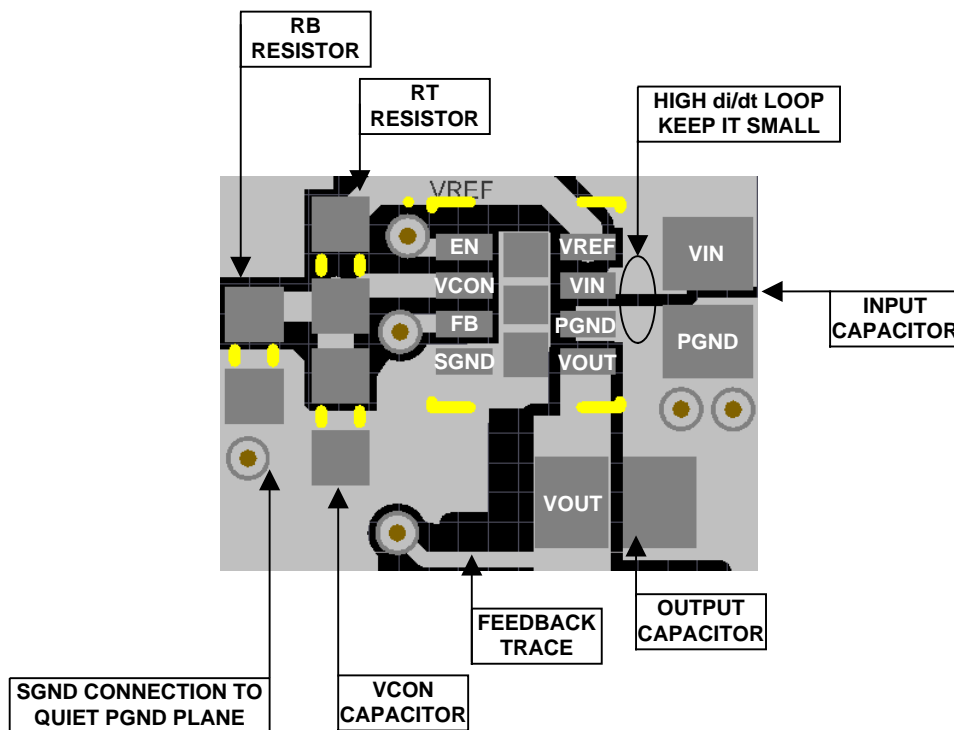

Figure 40. Example Top Layer Board Layout
The LMZ10501 integrates the inductor and simplifies the DC-DC converter board layout. Refer to the example layout in Figure 40. There are a few basic requirements to achieve a good LMZ10501 layout.
2. Place the V_{CON} filter capacitor C_{VC} and the R_B R_T resistive divider as close as possible to the V_{CON} and SGND terminals. The C_{VC} capacitor (not R_B) should be the component closer to the V_{CON} pin, as shown in Figure 40. This allows for better bypass of the control voltage set at V_{CON} .